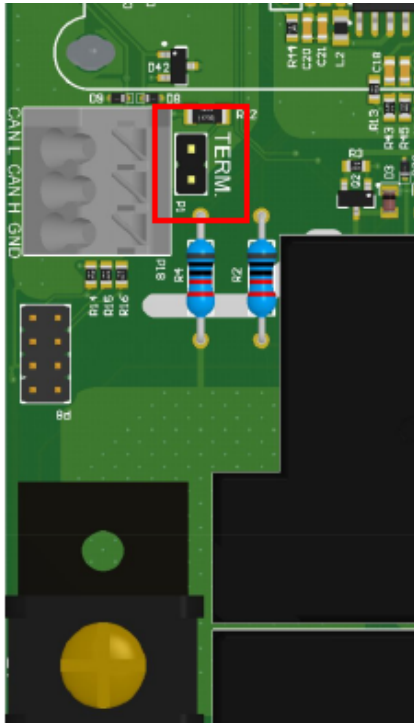
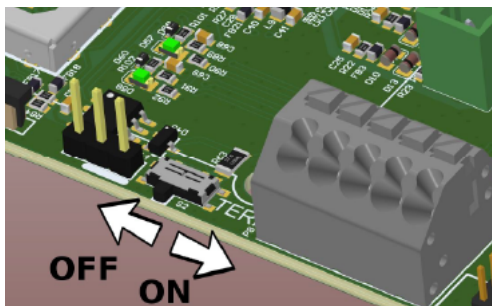

Fig. 38: The place of applying the terminating jumper (variant A)
Fig. 39: The place of applying the terminating jumper (variant B)
4. Use termination for devices at the beginning and end of the network. In case of variant A place terminating jumper on the marked headers [Fig 38]. In case of variant B, termination is done by slide the switch down, to show white square. In alternate version, if there is no switch, place a jumper on two pins in the header inside the charger marked by white line [Fig. 39]